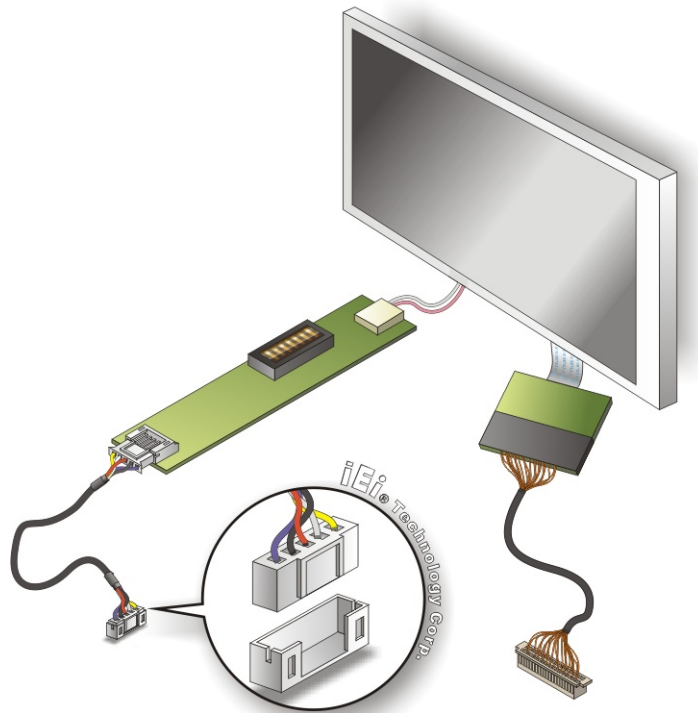

Figure 5-13: Backlight Inverter Connection
Step 4: Connect backlight connector. Connect the backlight connector to the driver LVDS LCD PCB as shown in **Figure 5-13**. When inserting the cable connector,